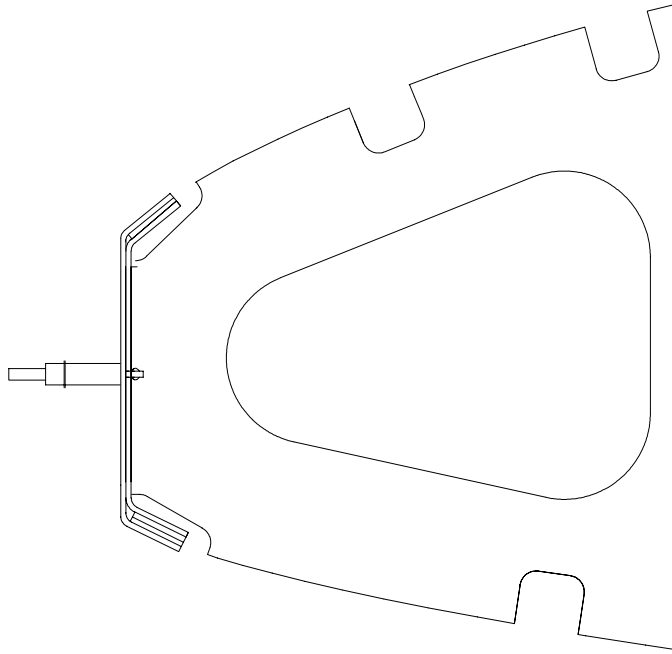

Figure 8.11.6
- 12) Cleco the Front Spar onto the Leading Edge Ribs using the holes just drilled in the flanges. Position the ribs so the lines on the flanges are visible through the center of the pre-punched holes in the Spar. Drill the remaining two holes to #40. Reassemble the Front Spar Tripler, Doubler and Front Spar to the Leading Edge Ribs and then drill all the #40 to #30 in the ribs and securely cleco in place. Figure 8.11.6.